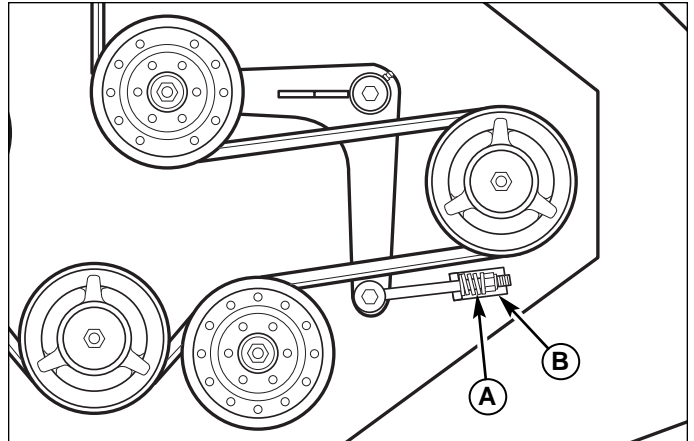

Figure 26. 52" Mower PTO Belt
4. Loosen the spring compression nut (B, Figure 26 & 27) to release the belt tension.
7. Install the drive belt on the PTO pulley, the spindle pulleys and idler pulleys. Tighten the spring compression nut (B, Figure 26 & 27) until the belt tension spring (A, Figure 26 & 27) is 3/4" (1,90cm) long.